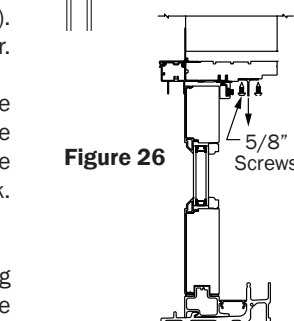

Figure 26
28. Remove T-Rails at the frame head by backing out the 5/8" screws and put aside (Fig. 26). These will be re-installed later.